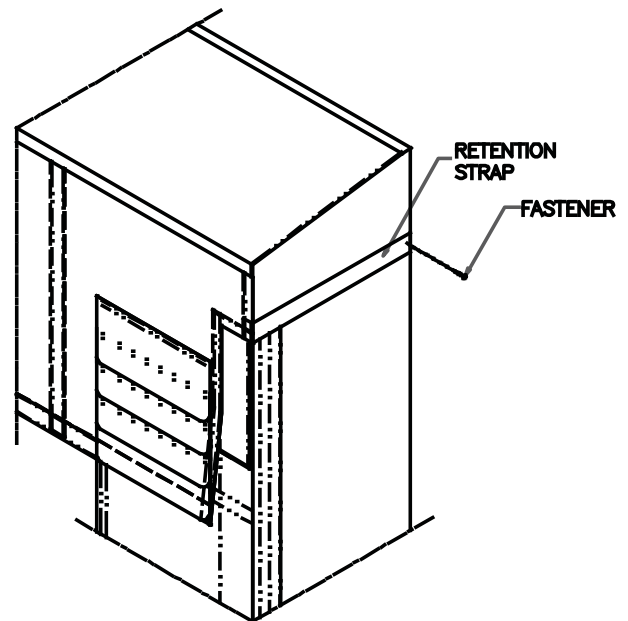

FIGURE 3
- Line the curtain face up with the outside edges of the unit. (See Figure 3)